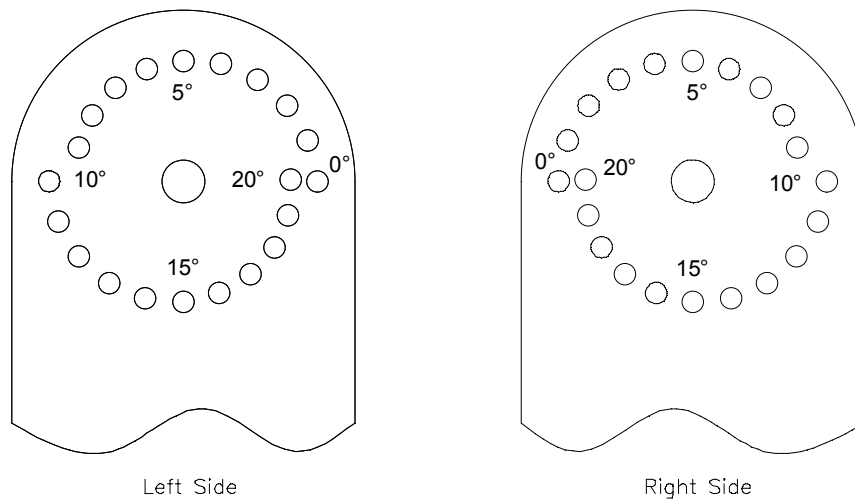

Figure 9-7 Vertical Aiming Index.
9. Place a ¼-20 cap screw in each side aligning the elevation to the initial setting. See Figure 9-7.